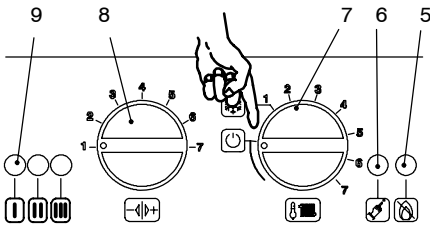

Fig. 8.1
- 8 Turn the boiler OFF positioning the function selector 7 as indicated in Fig. 8.1.